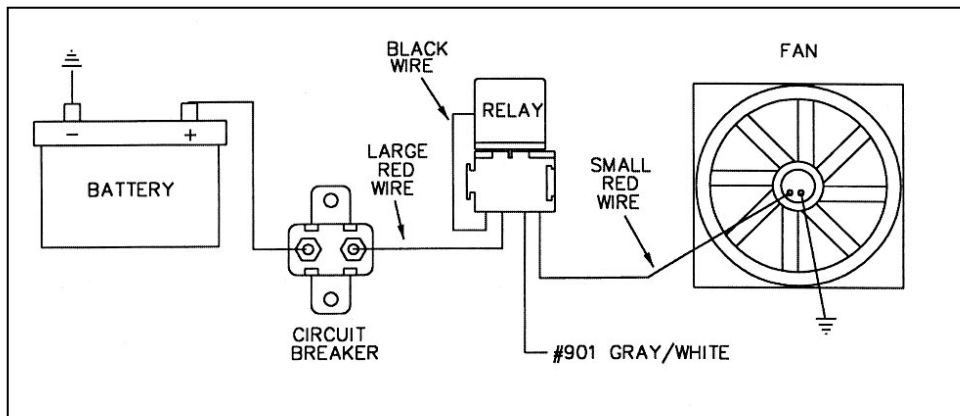

Figure 10-4 Typical Fan Relay Installation (Painless Part #30101)
- Note: The wire going to the fan in Figure 10-4 will be coming from the fan relay output terminal. Wire #901 (gry/wht) from the ACCESSORY SECTION SWITCHES is an activation wire for the fan relay.*